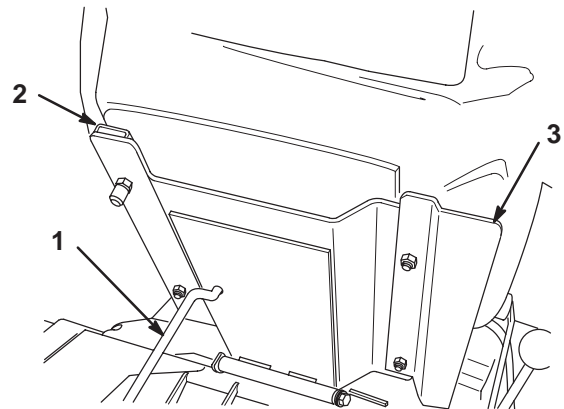

Figure 2
3. Secure the seat, seat panel, and seat slides to the seat support with the locknuts (5/16 in.) (Fig. 2) supplied in the loose parts. Mount the seat panel on the right side, positioned as shown in Figure 2.